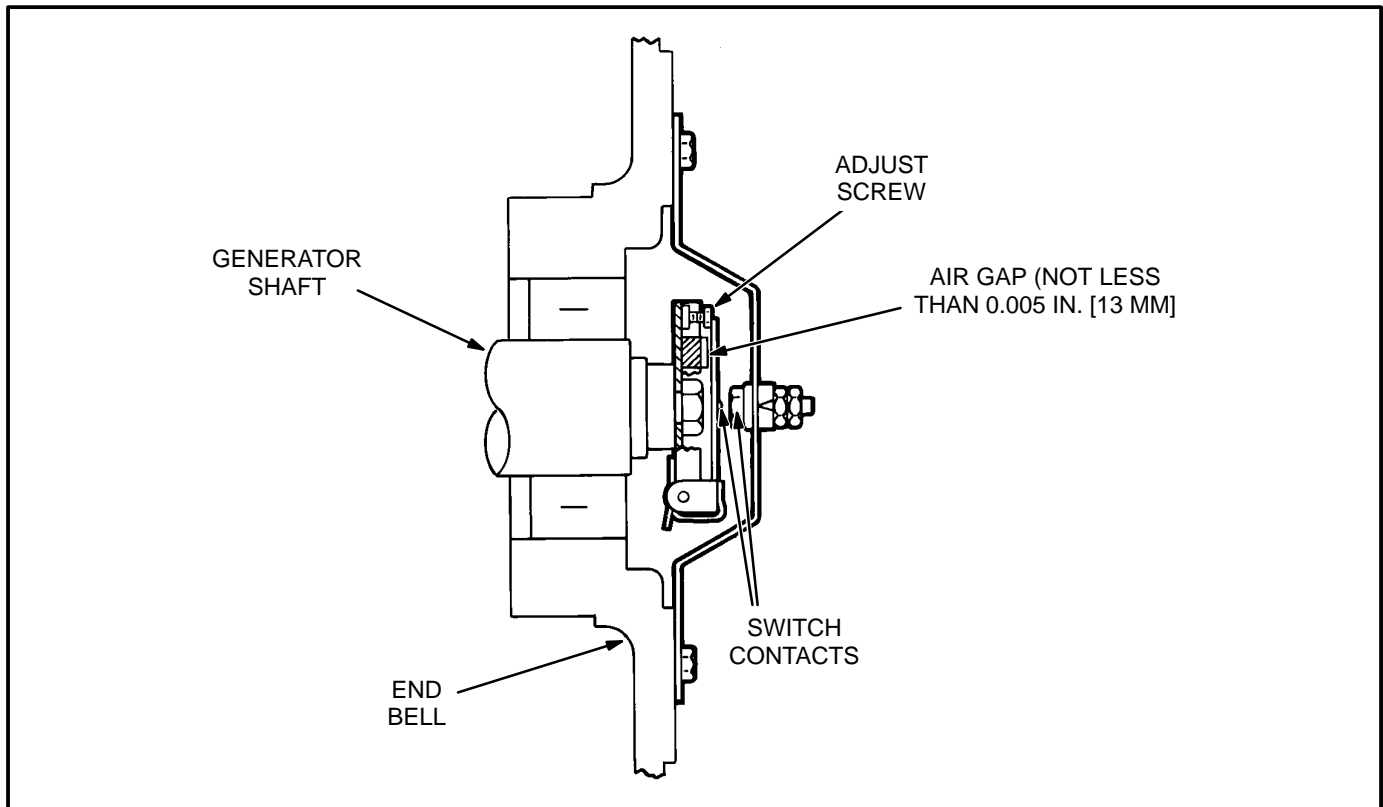

FIGURE 5-8. OVERSPEED SWITCH ASSEMBLY
14. Remove the overspeed switch and bracket from the end bell and rotor shaft. See Figure 5-8.
14. Refer to Figure 5-8. Mount and adjust Mechanical Overspeed Switch.